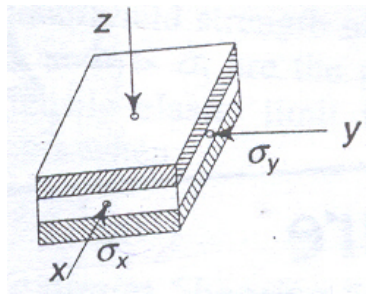

Figure 1
- (b)** A thin rubber sheet is enclosed between two fixed hard steel plates as shown in **Fig. 1**. The friction between the rubber and steel faces is negligible. If the rubber plate is subjected to stresses as shown then determine the strains ϵ_{xx} and ϵ_{yy} . **06**